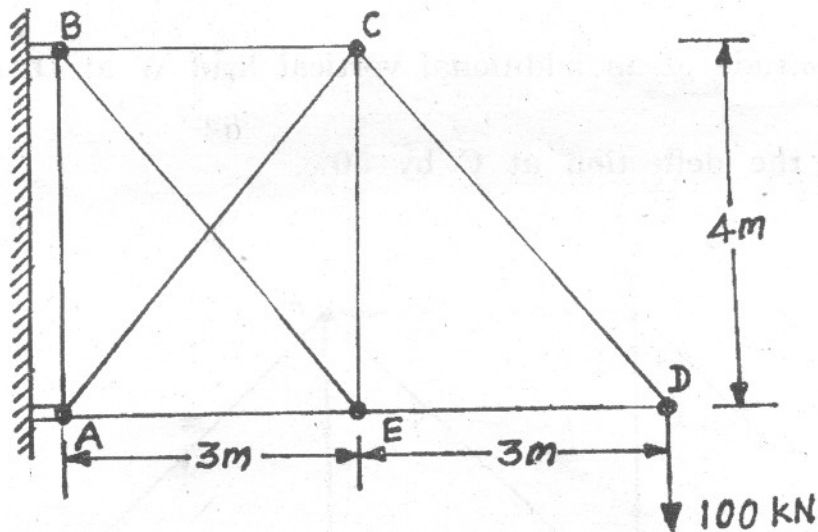

Fig. 8
6. Determine the forces in all the members of the pin jointed frame, shown in Fig. 8. The cross-sectional area of the chord members BC, AE and ED is  $5000 \text{ mm}^2$ , that of the verticals